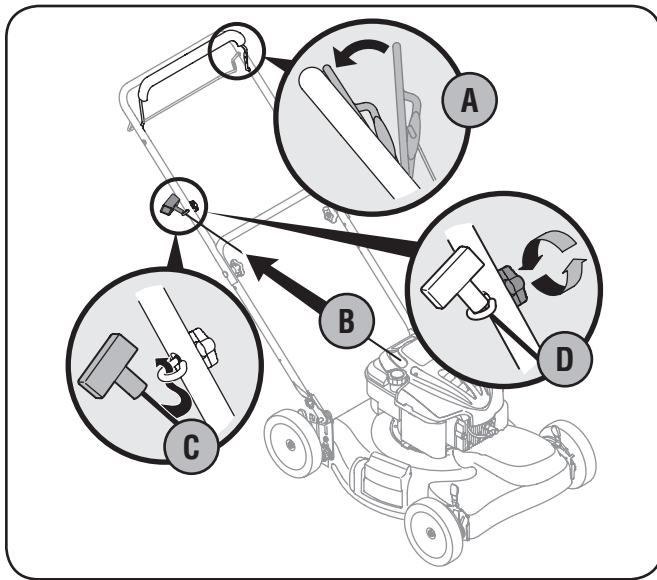

Figure 3-3
3. The rope guide is attached to the right side of the upper handle. See Fig. 3-3. Loosen the wing nut which secures the rope guide.